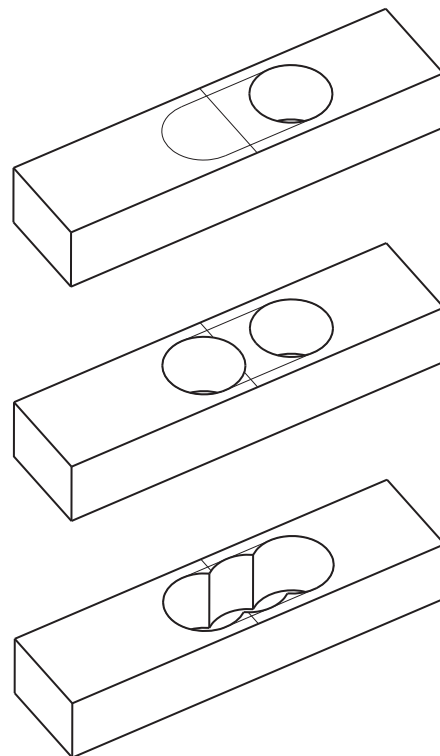

Figure 3: Roughing out the through mortise.
3. Rough out the mortise by drilling three through holes, as shown in **Figure 3**, using a 3/4" forstner bit.